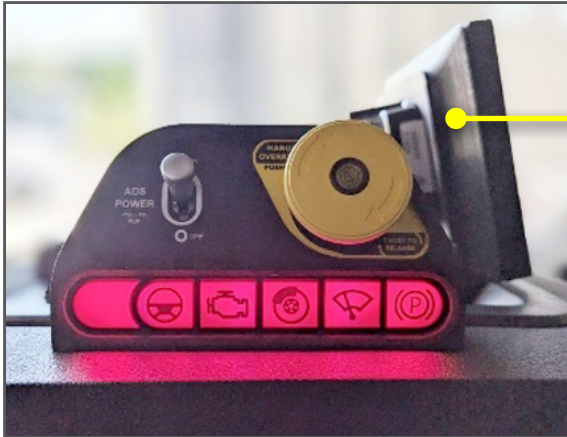

Figure 4. Emergency Manual Override (EMO)
2. Press the yellow Emergency Manual Override (EMO) (**Figure 4**) button located on top of the dashboard to disable the ADS system. Once disabled, the status lights beneath the button will all be red.